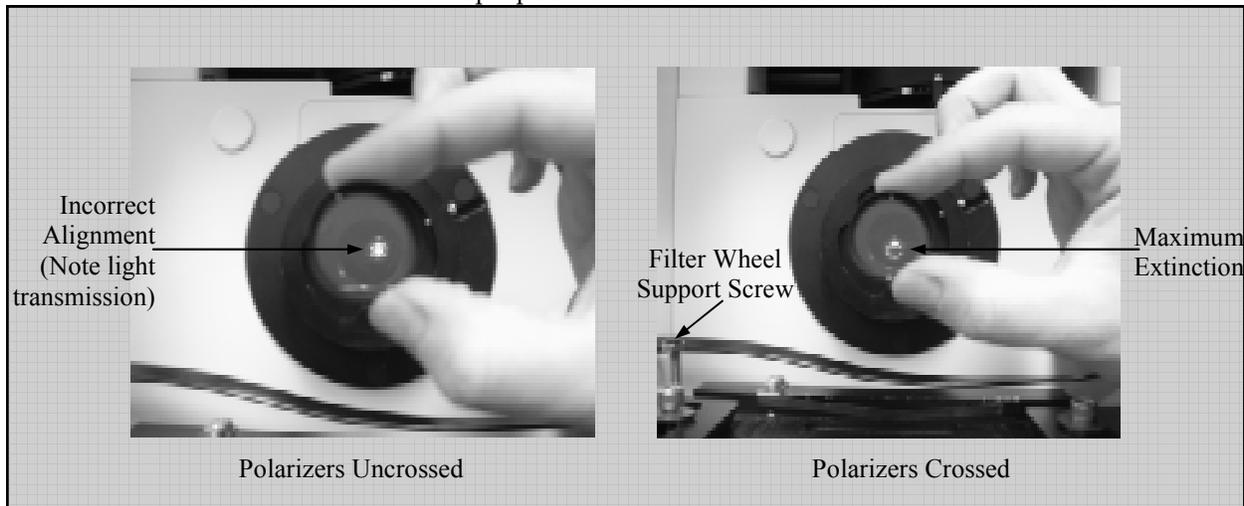

Figure 4. Proper Polarizer alignment.
- 2.10. Rotate the Eyepiece Polarizer that was removed in step 2.3 in front of the camera side port until maximum light extinction occurs (see Figure 4). Note the orientation of the dots on the rim of the Polarizer. This will be the proper orientation for the Emission Filter Wheel Polarizer.